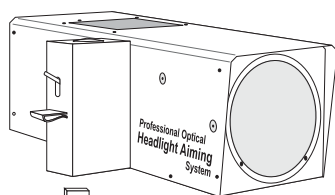

Fig. 2
*Install optical aimer head on mast as shown in fig.2 by pressing trigger lock (fig. 3) and sliding it down the mast.*